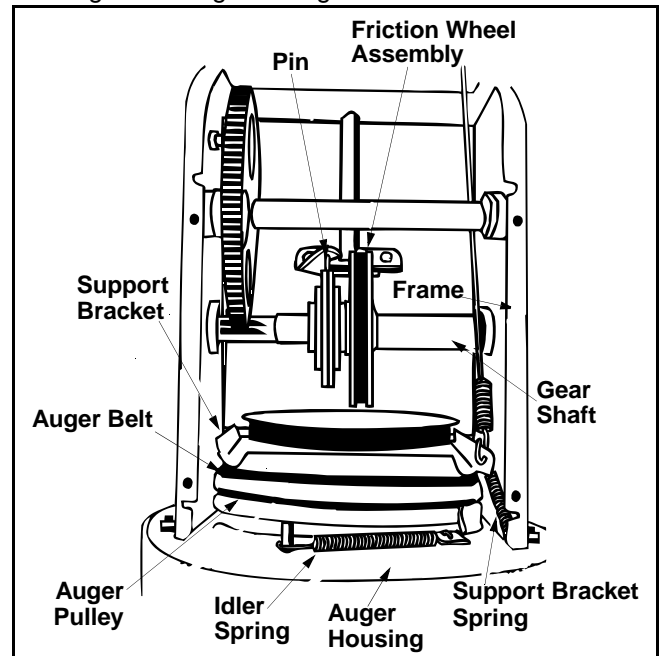

Figure 29
- Unhook the idler spring from the hex bolt on the auger housing. See Figure 29.
- Lift the rear auger belt from the auger pulley, and slip belt between the support bracket and the auger pulley. Repeat this step to remove the front auger belt. See Figure 29.
- Slide friction wheel assembly back onto the gear shaft. Be sure to align the pin on the shift rod with hole in the friction wheel assembly. See Figure 29.